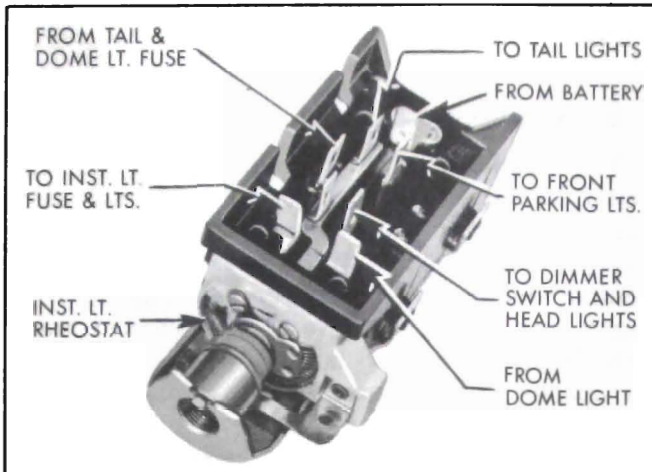

Figure 10-39—Light Switch
If the lighting switch is suspected of being faulty, the contacts can be tested by connecting a low reading voltmeter between the wire supplying current to the contact and the wire conducting current away. This must be done with the switch in a position where the contact under test is closed. See Figures 10-39 and 10-68.
2. With switch on, connect the headlight terminal of lighting switch and the negative post of battery. See Figure 10-39.